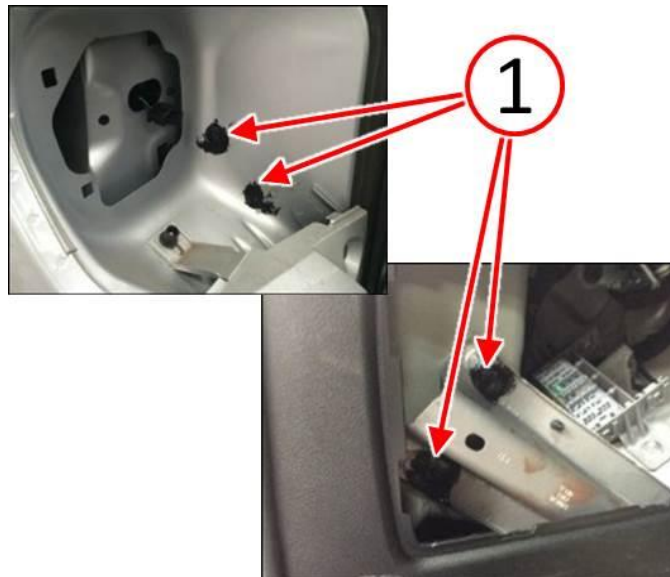

Fig. 6 Cover Rivets With Polyurethane Adhesive Sealant
7. Using polyurethane adhesive sealant, completely cover and seal the rivets on both sides (inside the vehicle and inside the tail lamp bucket) in order to fully encapsulate the rivets to protect against water infiltration (Fig. 6).